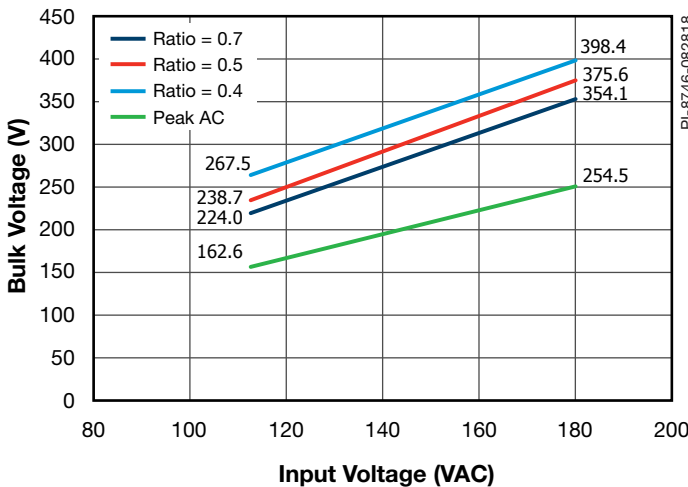

Figure 23. No-Load Bulk Voltage vs LPFC/NOM Ratio.
1. **Use a higher `RATIO_LBST_LFB` value.** As shown on Figure 23, the no-load bulk voltage is higher as the ratio is decreased. Unless lower ratio is needed to meet the required PF or THD, it is important not to set the ratio lower as this affects the no-load bulk voltage.